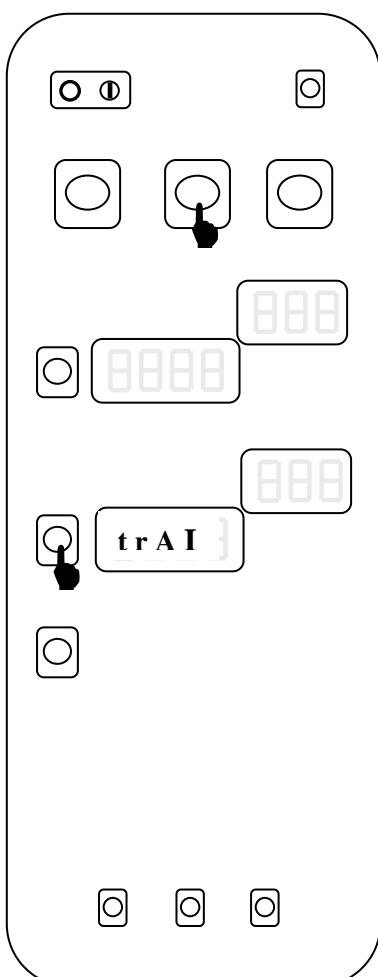

Fig. 21
- Combi cycle, time buttons (fig. 21): activation of rinsing pump (**trAI** appears)